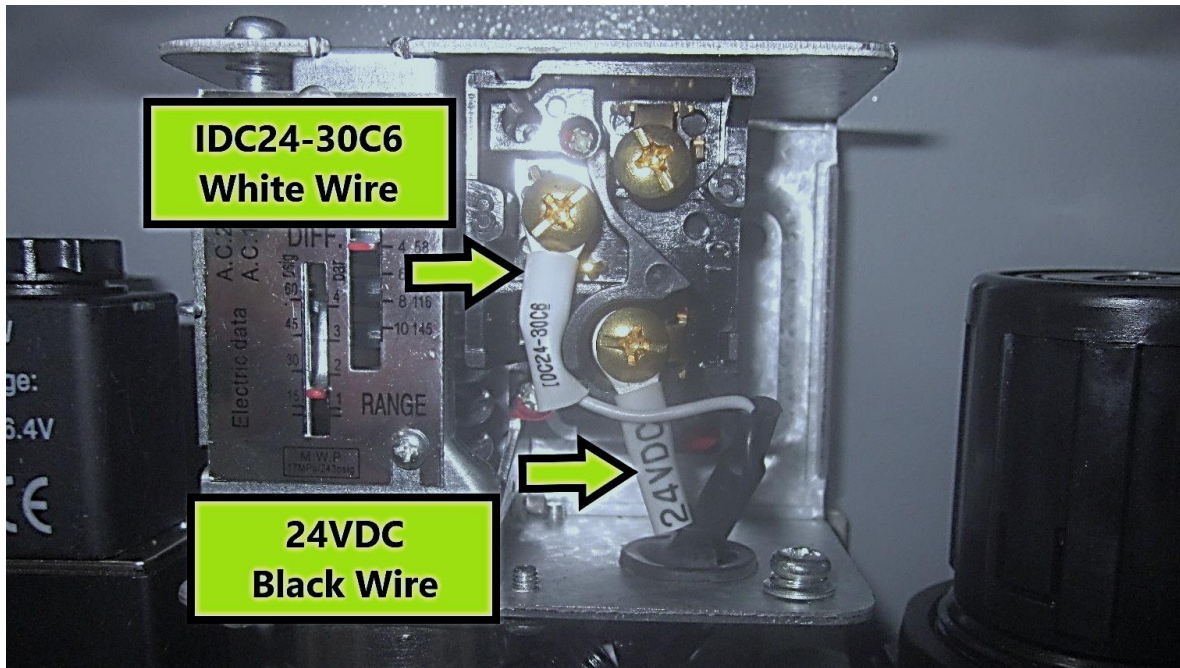

Figure 2.9.1.1 - Air Pressure Switch Electrical Connections
Air hose "A" and "B" connect from the left side to the main solenoid as shown. The orange hose connects to location "A" and the blue hose to location "B." (**Note - Be sure these are correct as problems with the ATC will occur if incorrectly installed.**) There are (2) two larger (10mm) black hoses to connect. The hose leading from a "T" fitting connects to location "C," a "Y" fitting connects below the pressure switch. Hose labeled "D" connects to the air blast solenoid, on the right-hand side of the panel. See figure 2.9.1.b
Remove the cover and install the loose wires IDC24-30C6 and 24VDC as shown in figure 2.9.1.1. Push the wire and shielding into the switch, using a zip tie to hold the wire and shielding inside the switch and prevent them from slipping out.